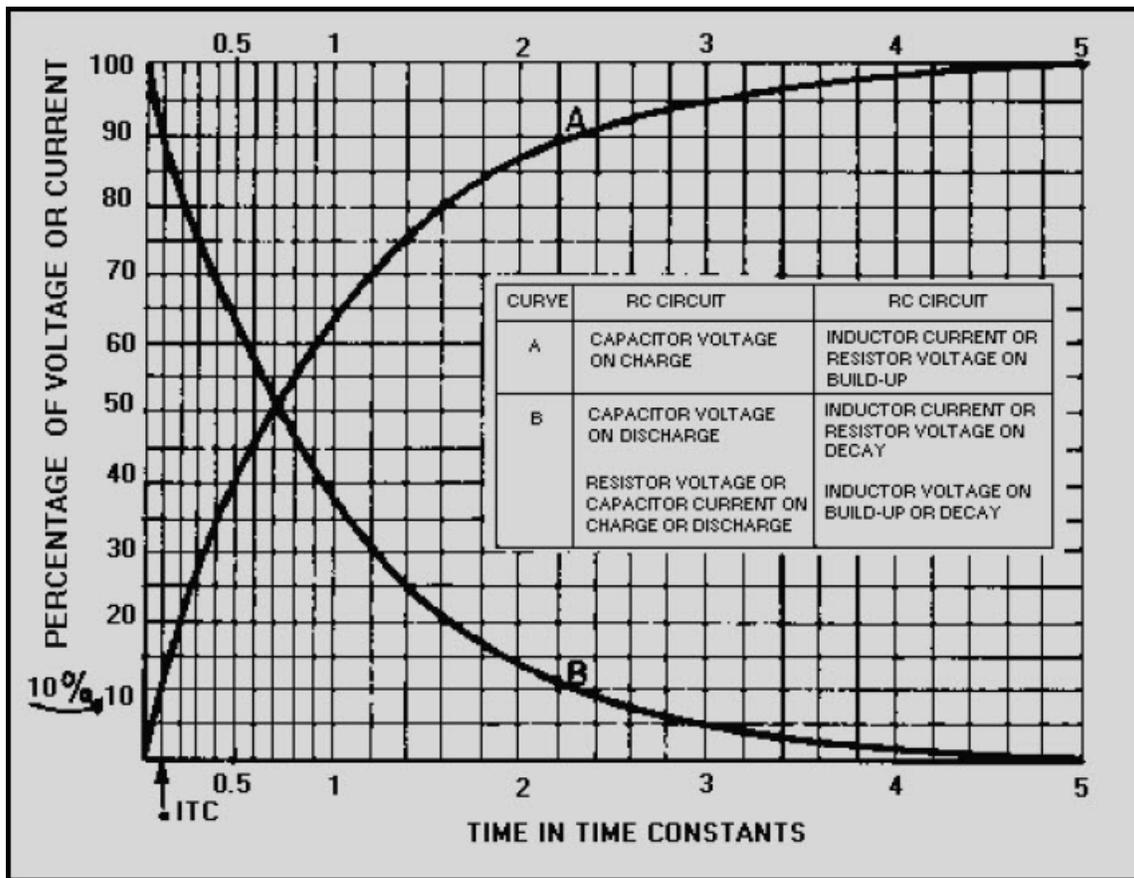

Figure 3-39 Universal Time Constant Chart
By selecting the sizes of R and C, you can have a time constant of any value you desire. Further, by controlling the time S1 remains closed, you can generate a sawtooth of any duration. Figure 3-39 is the Universal Time Constant Chart. Notice in the chart that if 1 time constant is 1,000 microseconds, S1 (figure 3-38, view (A)) can be closed no longer than 100 microseconds to obtain a reasonable linear sawtooth. In this example, C1 will charge to nearly 10 volts in 0.1 time constant.
As stated in the discussion of time-base generators, the waveform produced from any sawtooth generator must be linear. A LINEAR SAWTOOTH is one that has an equal change in voltage for an equal change in time. Referring to the Universal Time Constant Chart in figure 3-39, you can see that the most desirable part of the charge curve is the first one-tenth (0.1) of the first TC.
Decreasing the value of the TC (R_2 or C_2), as shown in figure 3-43, view (B), results in an increase in the number of time constants and therefore causes linearity to decrease. Anytime the number of time constants increases, the percentage of charge increases (see the Universal Time Constant Chart, figure 3-39), and amplitude (physical length) increases. Without an increase in gate length, the time that C_2 is allowed to charge through R_2 remains the same; therefore, electrical length remains the same. Linearity is affected by gate length, the value of R , and the value of C ; but is not affected by changing the value of V_{CC} . Increasing the gate length decreases linearity, and decreasing gate length increases linearity. Increasing R or C in the circuit increases linearity, and decreasing R or C in the circuit decreases linearity.
The electrical length (sweep time), which is measured from T2 to T3, can be found by multiplying RC times the number of time constants. Refer to the Universal Time Constant Chart (figure 3-39) again to find that 57 percent is 0.83TC. By multiplying 0.83 times R1C1, you will find that the electrical length is approximately 21 milliseconds: